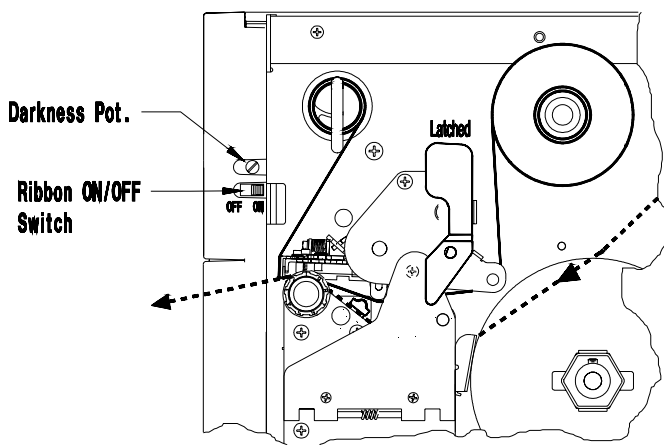

Figure 2-12 Selecting Ribbon On (Thermal Transfer)
11. Locate the Ribbon ON/OFF switch, (see Figure 2-12), and slide the switch to the right to select Thermal Transfer (ribbon on). If no ribbon is used, place the switch in the off position for direct thermal. This Switch is not available with the LCD/Keypad Front Panel Option, (see Section 3.2).